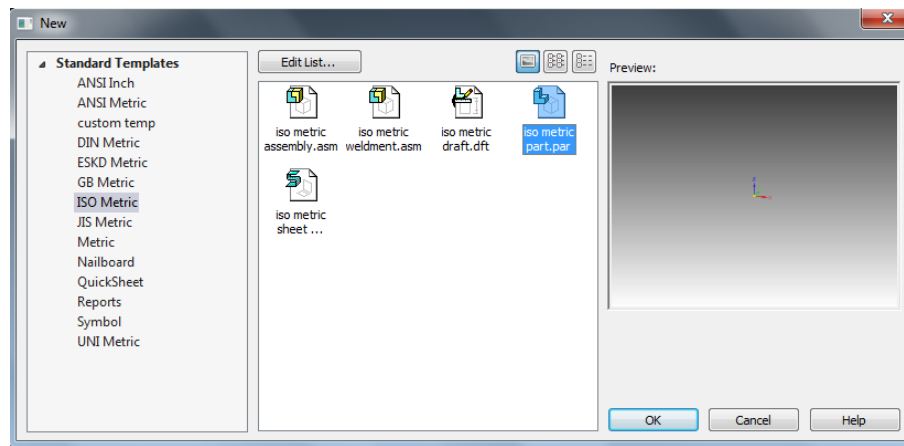

Figure 2-51 The New dialog box to start a new file in ST7
- Choose the **New** tool from the **Quick Access** toolbar; the **New** dialog box is displayed, as shown in Figure 2-51.
- In this dialog box, select the **iso metric part.par** template, refer Figure 2-51. Next, choose **OK** to start a new part file.